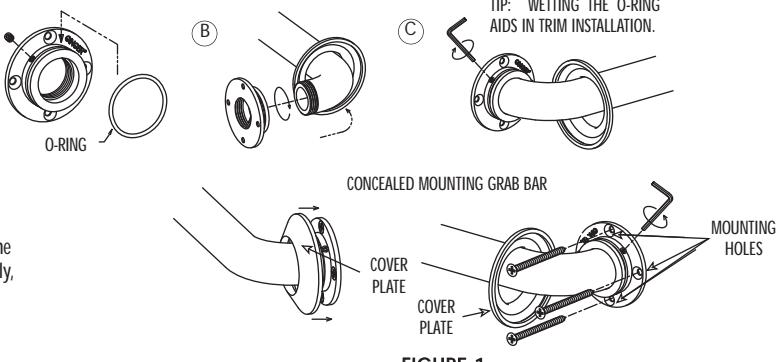

FIGURE 1
1. Remove the Grab Bar and parts from the package. If concealed mounting Grab Bar is used, move cover plates away from mounting holes (see Figure 1).
7. If concealed mounting Grab Bar is used, move cover plates over mounting holes and firmly press against the wall (see Figure 1 on page 1).
**TO INSTALL INTO METAL WALL STUDS:** 1. Put on safety glasses before starting. 2. Use the 3/8-inch power drill and 5/8-inch drill bit to drill six (6) holes where marked. NOTE: If installing Grab Bar over ceramic tiles, the 5/8-inch carbide drill bit will be needed for drilling through tile, in order to prevent damage to tiles. Once a hole has been drilled through the tile, use the 5/8-inch drill bit to drill through the backing support for the tile. 3. Insert one (1) TOGGLE BOLT through any one of the mounting holes on one end of the Grab Bar. Start a spring nut on the end of the TOGGLE BOLT as shown (see Figure 5), screwing it onto the bolt about three turns. Repeat this step for two (2) TOGGLE BOLTS on that same end of the Grab Bar. 4. Position the end of the Grab Bar with the TOGGLE BOLTS attached so that you can push the spring nuts and butt ends of the TOGGLE BOLTS through the corresponding holes that have been drilled. The spring nuts must be completely through the holes in the wall (see Figure 6). 5. Repeat Steps 3 and 4 for the other end of the Grab Bar. 6. Pull the TOGGLE BOLTS on one end of the Grab Bar toward you and finger tighten the bolts to be sure that spring nuts have opened fully against the back side of the wall and metal wall studs (see Figure 6). If the spring nuts have not opened fully, loosen the bolts and repeat Step 6. 7. Repeat Step 6 for the other end of the Grab Bar. 8. Lightly tighten the TOGGLE BOLTS. Further tightening will be required in Step 10. 9. If Grab Bar is to be installed horizontally, make sure Grab Bar is level (you may need to jostle the TOGGLE BOLTS on one end or the other to level the bar). 10. Securely tighten all TOGGLE BOLTS with a screwdriver. 11. If concealed mounting Grab Bar is used, move cover plates over mounting holes and firmly press against the wall (see Figure 1 on page 1).
- Repeat Step 5 for the remaining two (2) WOOD SCREWS going into the wood wall stud.
- If concealed mounting Grab Bar is used, move cover plates over mounting holes and firmly press against the wall (see Figure 1 on page 1).
10. Repeat Step 5 for the remaining two (2) WOOD SCREWS going into the wood wall stud.
13. If concealed mounting Grab Bar is used, move cover plates over mounting holes and firmly press against the wall (see Figure 1 on page 1).